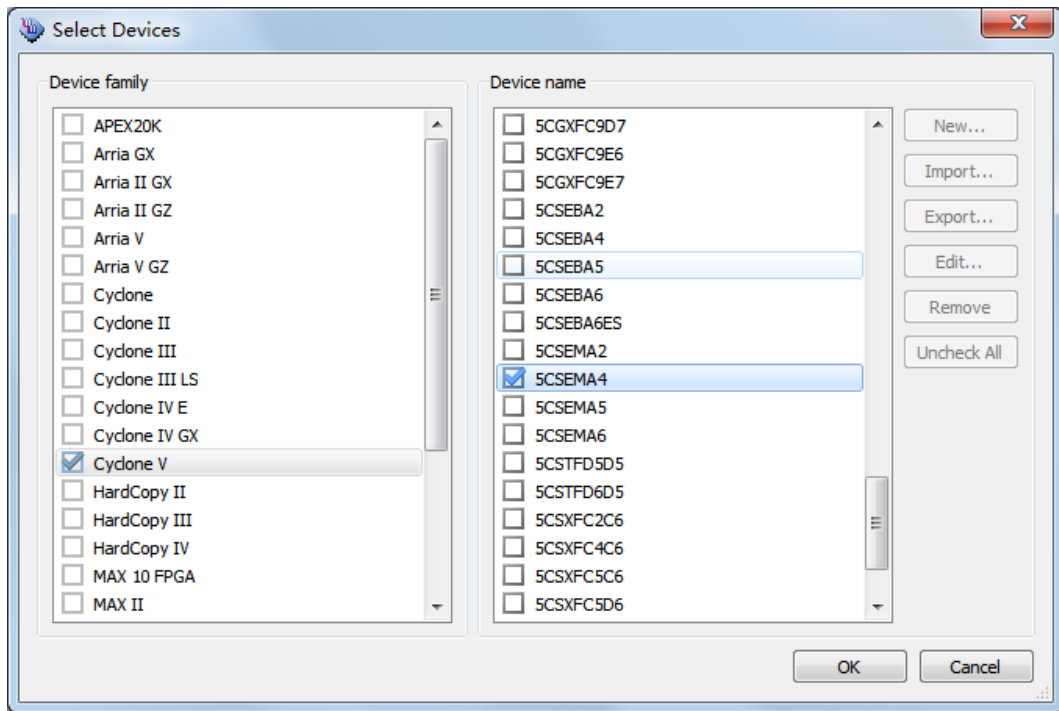

Figure 8-5 “Select Devices” page
13. Select the targeted FPGA to be programmed into the Flash Loader, as shown in **Figure 8-5**.